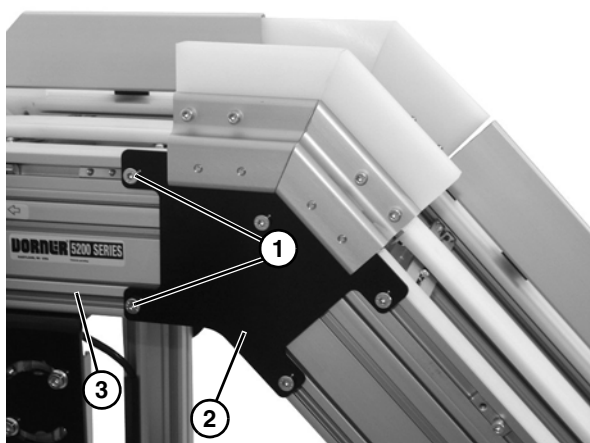

Figure 7
1. Attach upper knuckle to frame by loosening two socket head capscrews (**Figure 7, item 1**) on each side of upper knuckle assembly (**Figure 7, item 2**), and sliding T-Nuts into straight frame section (**Figure 7, item 3**).